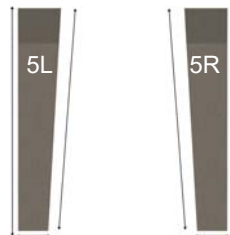

Figure 14. Upper Sidewalls -Top View
H. Install upper sidewalls (5L) and (5R), ensuring the correct piece is placed in position. The correct position is when the inner wall, outer wall and front are parallel with the middle wall pieces. Place each so the front is set back 3½ inches from the front of the middle wall piece below. See Figures 14 & 15.